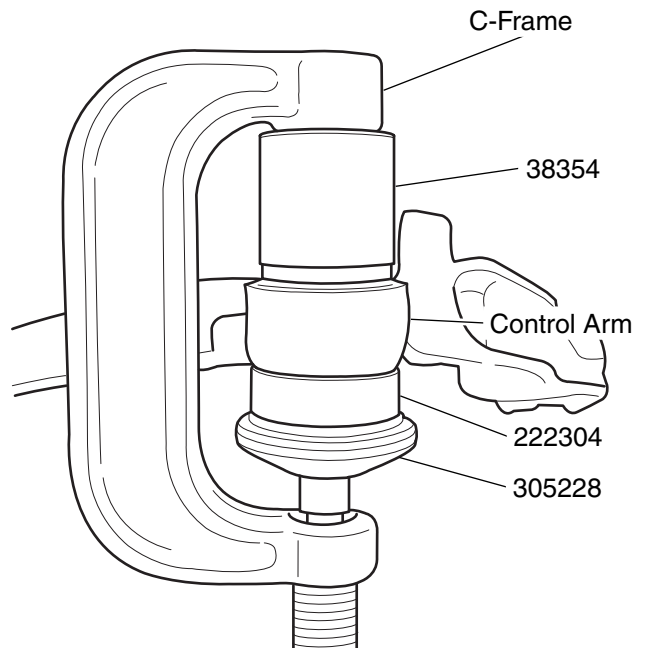

Figure 2. Ball Joint Installation
3. Position 38354 on the ball joint as shown in Figure 2.